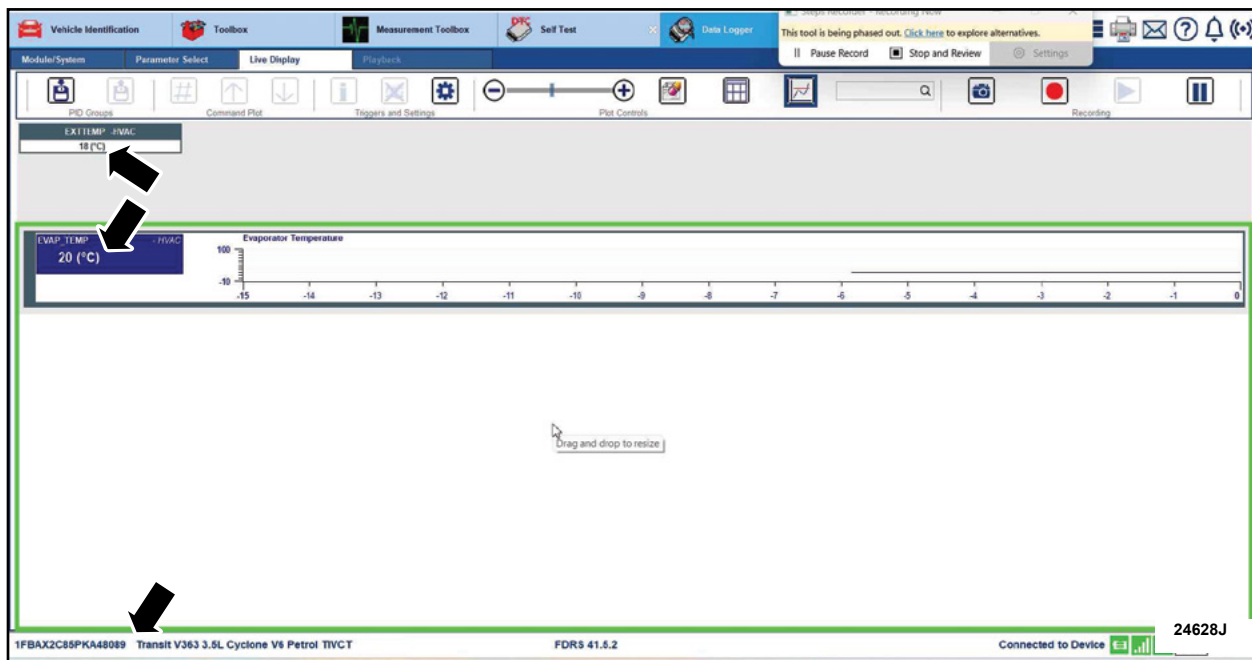

FIGURE 11
20. Record the evaporator and external temperature on the repair order. See Figure 11. Compare the external temperature and the evaporator temperature to the chart shown below. If the evaporator temperature is at or below the target temperature shown, the vehicle passes inspection.